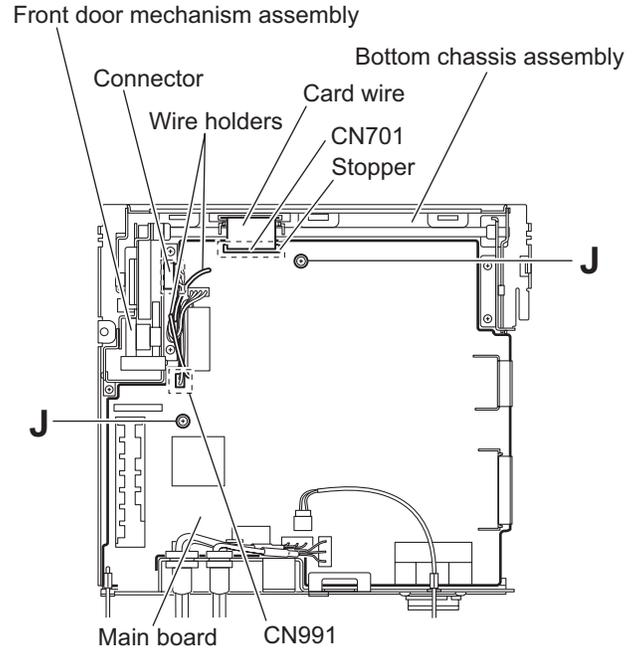

Fig.11
- (2) From the top side of the bottom chassis assembly, remove the two screws **J** attaching the main board to the bottom chassis assembly. (See Fig.11)
- (3) Release the stopper of the connector CN701 on the main board in an upward direction, disconnect the card wire from the connector CN701. (See Fig.11)
- (4) Disconnect the wire from the connector of the front door mechanism assembly. (See Fig.11)
- (5) Disconnect the wire from the connector CN991 on the main board. (See Fig.11)
- (2) From the top side of the mechanism section, remove the screw **D** attaching the front unit 2. (See Figs.11 and 12.)
- (3) Move the front unit 2 toward the front to release the joint **i**. (See Figs.11 and 12.)